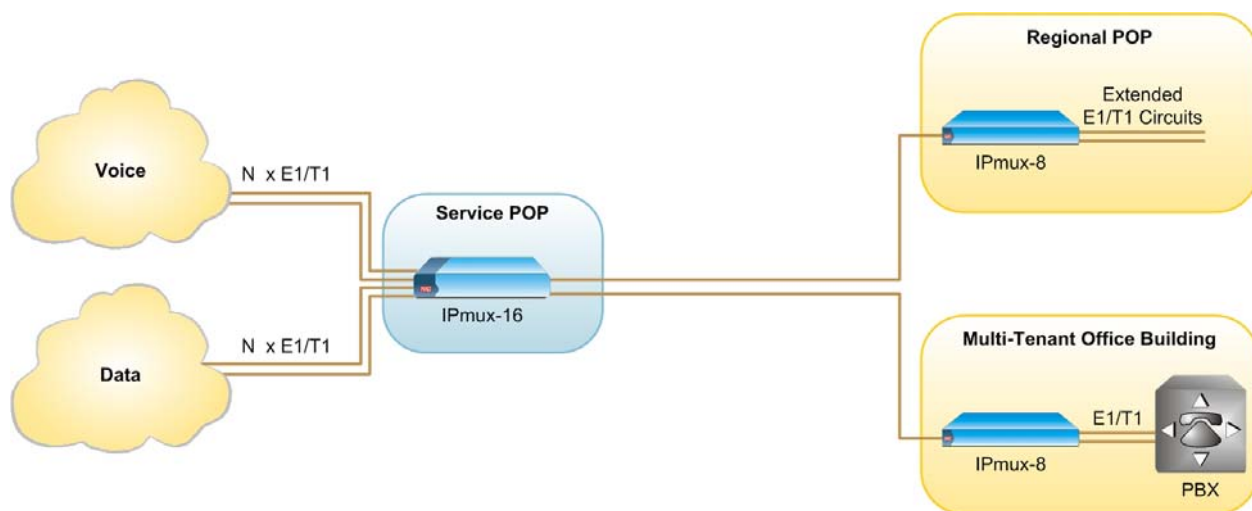

Figure 1-1. Extending E1/T1-Based Services over IP
- Figure 1-1 shows IPmux-8/16 extending E1/T1-based services over IP.